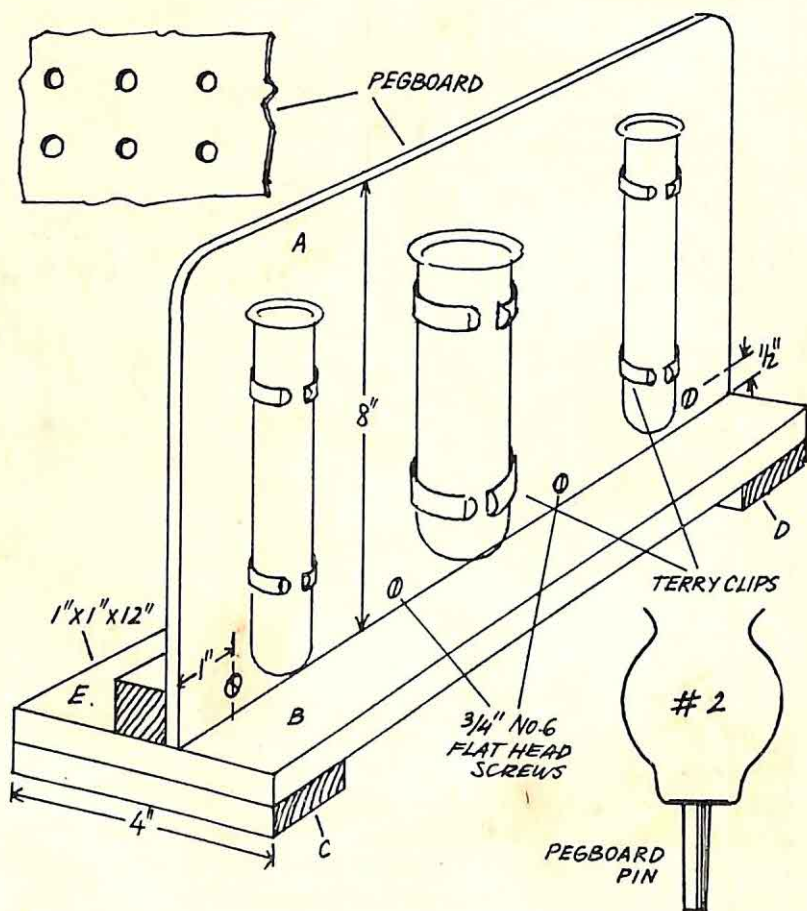

Figure 174
$1\frac{1}{2}$ -inch No. 8 screws. The cleat (part E) should come next and the pegboard should be screwed to this. The construction is shown in Figure 174. The pegboard (A) should be fastened to the cleat (E) with four flat-head screws ( $\frac{3}{4}$ -inch No. 6) evenly spaced.